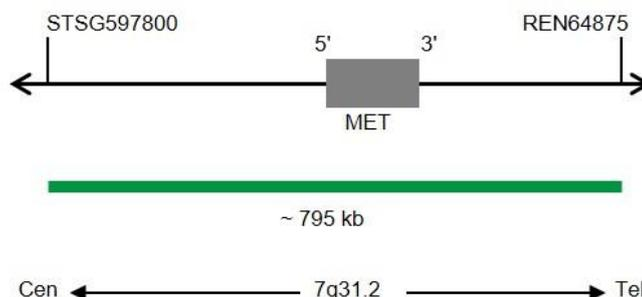

Fig. 1: MET Probe map (not to scale)
- ZyGreen (excitation 503 nm/emission 528 nm) labeled polynucleotides (~5 ng/μl), which target sequences mapping in 7q31.2* (chr7:115,925,700-116,718,699) harboring the MET gene region (see Fig. 1).